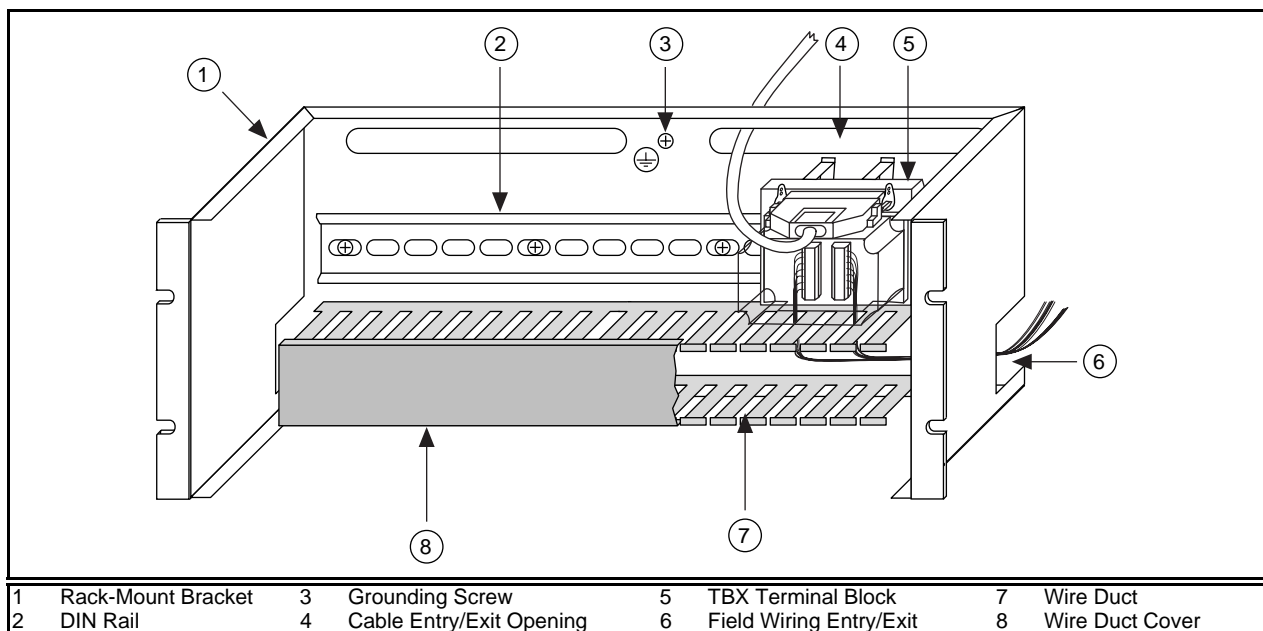

Figure 2. Installing Terminal Blocks
**Warning:** *Always attach a Safety Earth Ground wire to the grounding screw before introducing any high voltages (see Figure 2). National Instruments is NOT liable for any damages or injuries resulting from signal connections that exceed any of the ratings specified in each TBX terminal block installation guide.*
3. Snap the TBX terminal block onto the DIN rail with a firm push. See Figure 2 for an example of how the TBX terminal block looks when properly installed.
Cable assembly entry and exit openings are located in the back of the rack-mount bracket, as shown in Figure 2. Refer to your TBX terminal block installation guide for detailed instructions on cabling.
Perform the following steps to route your field wiring, referring to Figure 2 as necessary: